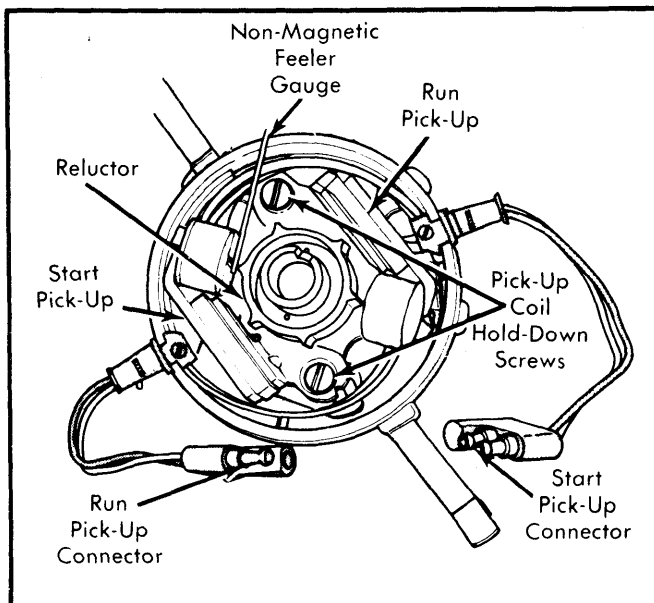

Fig. 13 Checking Distributor Pick-Up Air Gap
13) Remove distributor cap and check each reluctor-to-pick-up coil air gap for .006" clearance. If not to specification, adjust gap using a non-magnetic feeler gauge. See Fig. 13.